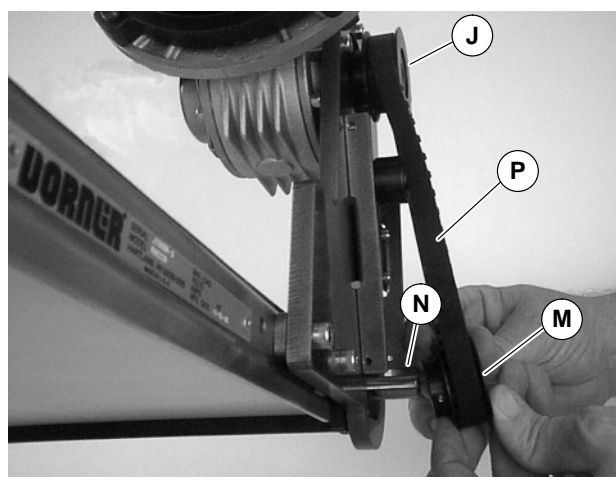

Figure 7
5. Install key (N of Figure 7).